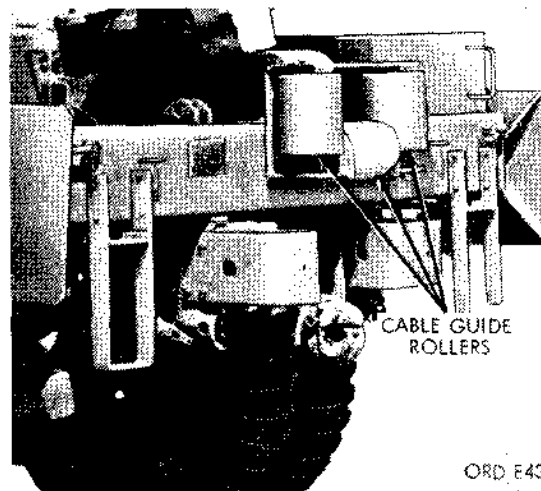

Figure 2-275. Cable guide rollers.
(1) Completely unwind the cable from the winch drum. Refer to TM 9-2320-211-10.
(2) Remove the hexagon-head setscrew from the winch drum, and pull the end of the cable from the hole in the drum.
(3) Remove the cable from the level wind sheave (12, fig. 2-268) and guide rollers (fig. 2-275).
(1) Pass the cable between the upper and lower guide rollers (fig. 2-275), and over the level wind swivel sheave (12, fig. 2-268).
(2) Insert the end of cable in hole in the winch drum. Install the hexagon-head setscrew in the hole in the drum, and tighten the setscrew to secure the cable to the drum.
(3) Wind the cable on the drum. Refer to TM 9-2320-211-10.